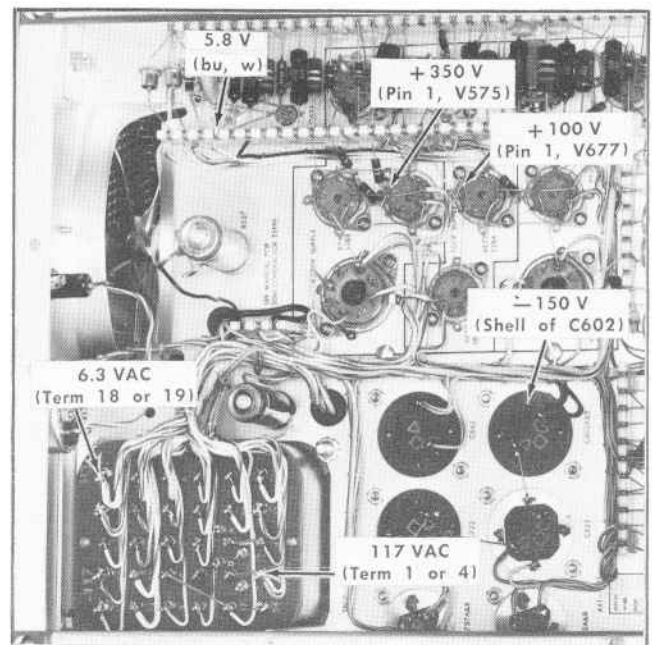

Fig. 6-4. Power Supply test points (steps 1 and 2).
a. Connect the DC voltmeter to the output of the —150 volt power supply (see Fig. 6-4).